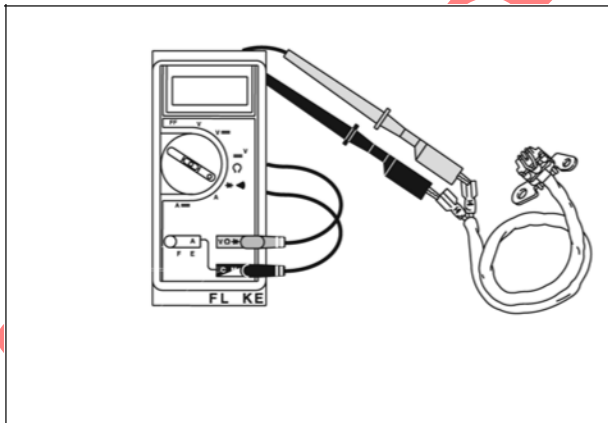

Figure 3
2. Attach a meter test lead to each trigger terminal in the connector (Figure 3).